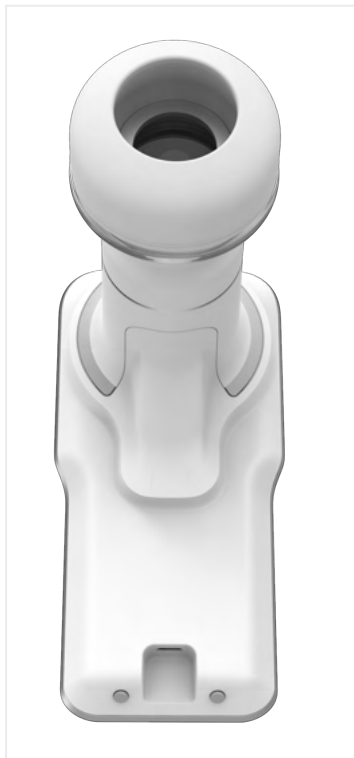

Figure 125: **Eyer®** connected to charger
- **Smartphone charge:** Plug a charger connected to the power grid, figure 125, in the **Eyer®** USB-C port, figure 126.